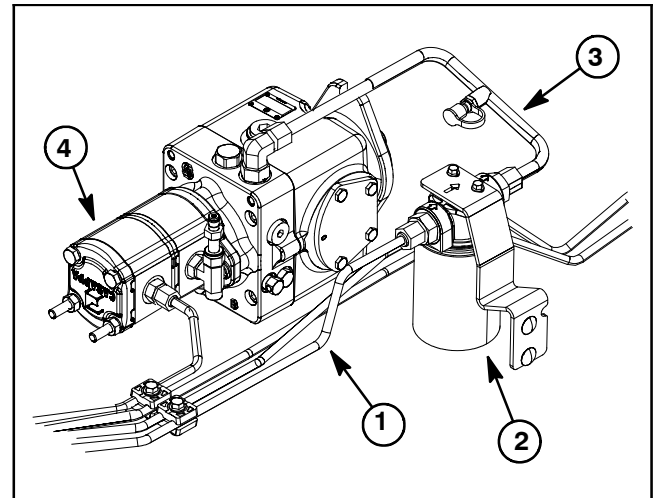

Figure 33
4. Thoroughly clean the ends of the hydraulic tubes connected to the oil filter and piston pump inlets (Fig. 33). Disconnect hydraulic tubes from oil filter inlet and piston pump inlet. Remove two (2) flange head screws that secure oil filter adapter to frame. Remove oil filter assembly and hydraulic tube from machine.